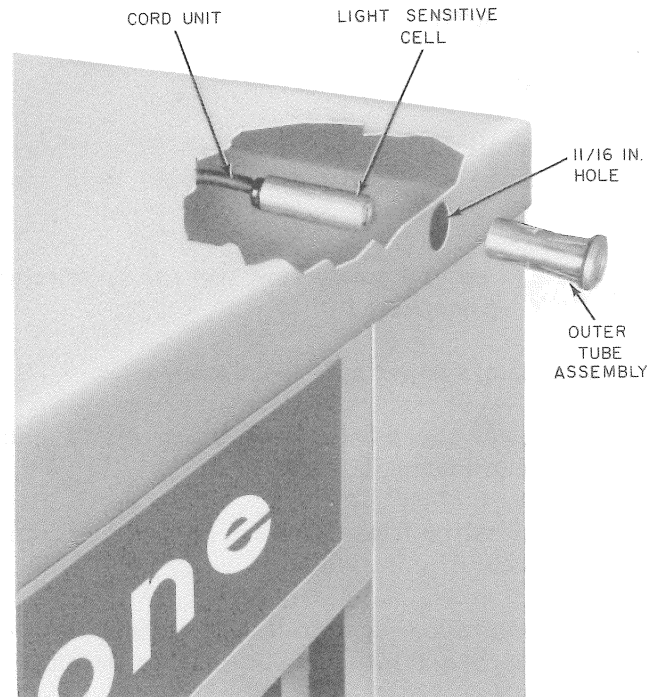

Fig. 8—Method of Installing Light Cell
- (e) Insert outer tube assembly (Fig. 8) through 11/16-inch hole in roof from outside until tabs lock behind edge of hole (Fig. 8).
- (i) Place outer tube assembly (Fig. 8) through roof hole from outside until the tabs lock behind edge of hole (Fig. 8).
- (l) Place outer tube assembly through roof hole from outside until tabs lock behind edge of hole (Fig. 8).